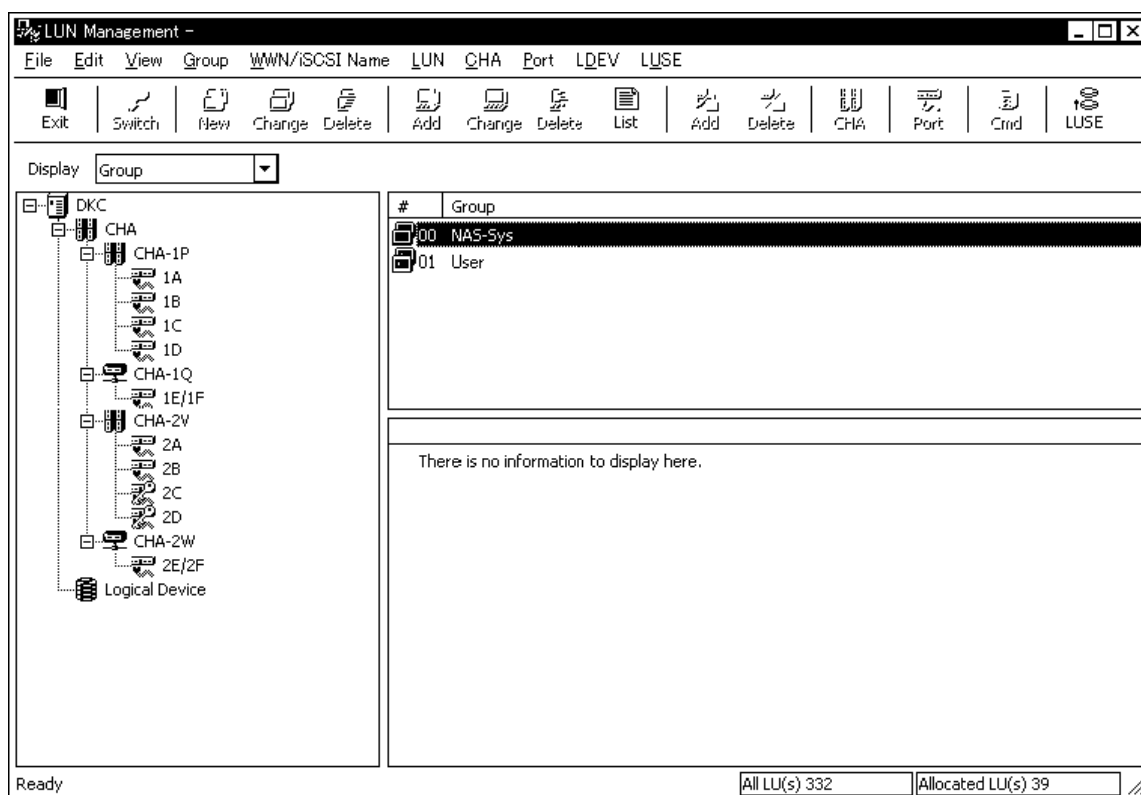

Figure 11.3.3 Group List Window
When the port of “NAS” in the tree view is selected (CL) and the Display is set as “Group,” “NAS-Sys” of the Group#00 and “User” of the Group#01 are displayed in the upper right list. This group information cannot be changed. (In an example shown in Figure 11.3.3, select the NAS port, 1E/1F from the tree diagram.)